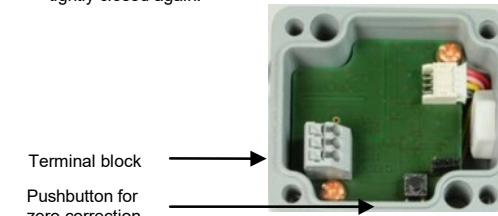

Fig. 3: Connection diagram
The IDPT 100 can be zeroed via a button. To do so, press the button (Fig. 3) for about 3 seconds.
6. Press the button (Fig. 3) for about 3 seconds.